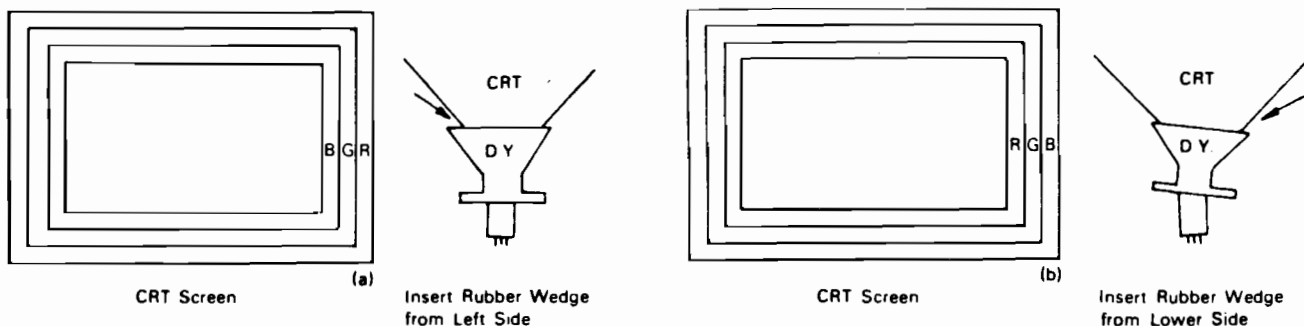

Figure 11
- 2) Tilting the angle of the yoke sideways adjusts the parallel convergence of both horizontal and vertical lines at the edges of the screen. See Fig. 11-a and b.